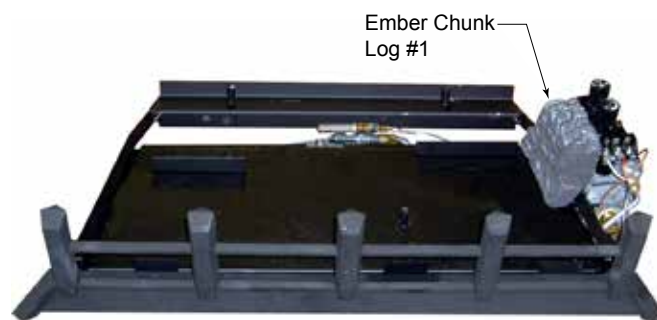

Figure 20
1. Place the #1 log (the "chunk") on the grate bar right side of the burner adjacent to the controls. *Figure 20*